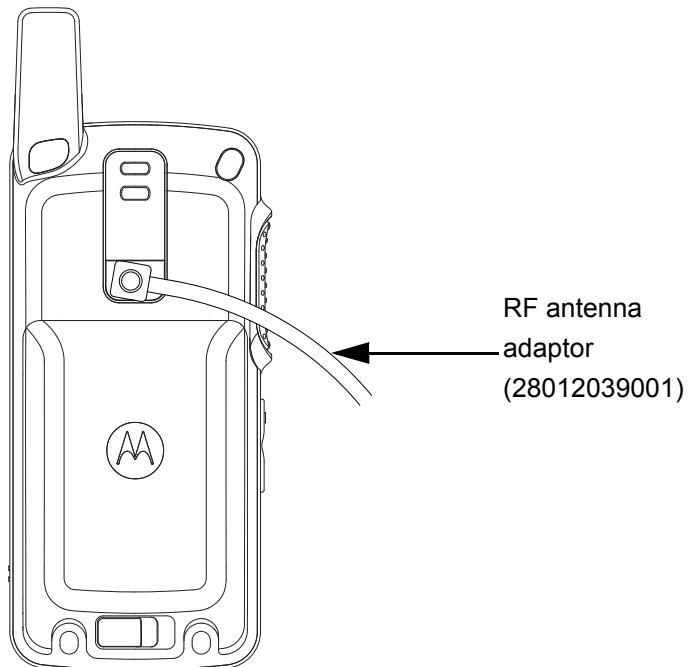

Figure 3-4. Connect RF Antenna adaptor to radio RF input/output port
- c. Connect the RF antenna adaptor to the 50 Ohm RF Input/Output port of the radio as shown in Figure 3-4.